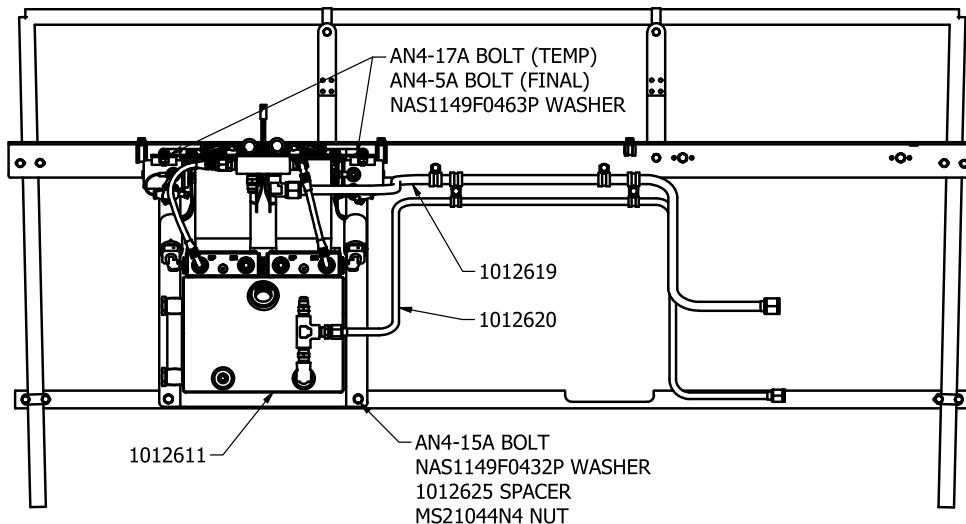

FIGURE 10
f. Hand tight AN4-17A bolts (2) into the nut plates located on upper fuselage mount (1012618) for the hydraulic pump location. These bolts allow the hydraulic power pack assembly to hang on the mounts through the key holes in the hydraulic power pack mounting plate. Once the hydraulic power pack assembly (1012611) is hanging on the AN4-17A bolts, install spacers (1012625) between the hydraulic power pack assembly and the fuselage steering support angle (10A12357-086) and mounting hardware on the bottom of the hydraulic power pack assembly, as shown in Figure 10.